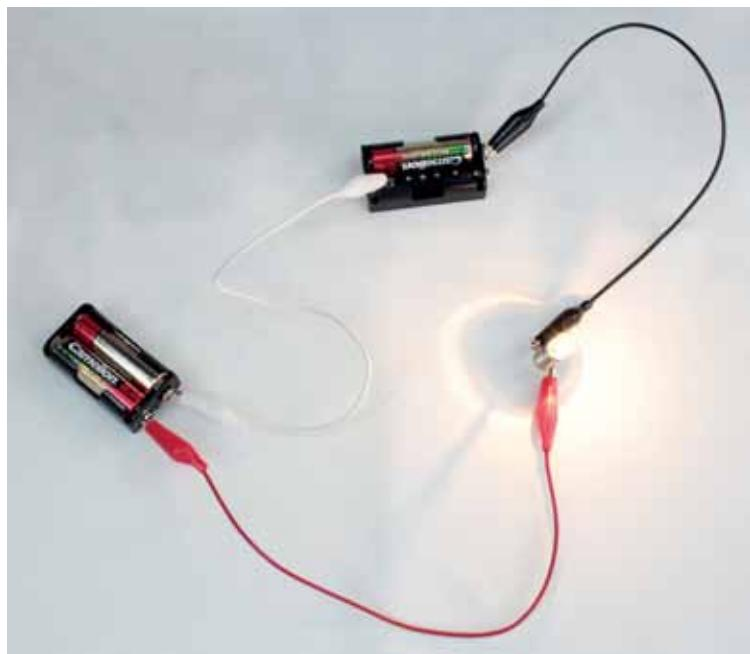

Figure 3: Three cells in series connected to a lamp
1. Draw a circuit diagram of the circuit in Figure 3 in the space to the right of it.
2. Figure 3 below shows three cells connected in series in a circuit. Draw a circuit diagram of the circuit in the space to the right of Figure 3.